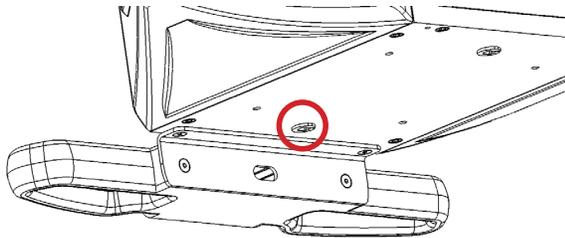

Figure 8.16 - Strain Relief Plug Location
- c. Remove the strain relief plug from the bottom of the FLEXiS System (Figure 8.16).